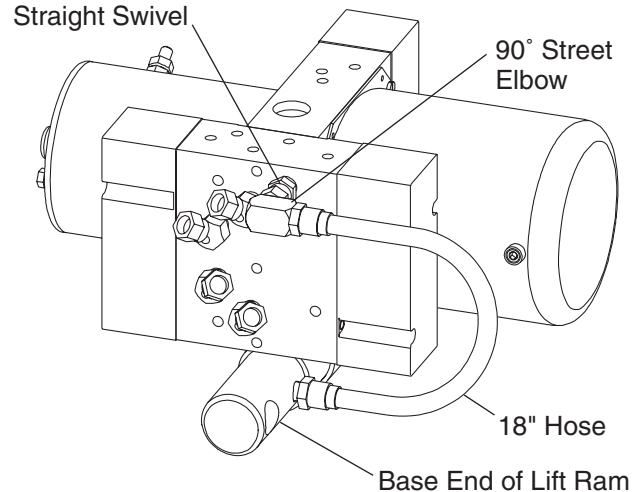

Figure 14
- Attach 90° street elbow to the 18" hydraulic hose. Attach hose to base end of lift ram. Attach other end with 90° fitting to straight swivel fitting. **Verify there is no twist in the hose.** Twisting could damage the hose. (See Figure 14.)